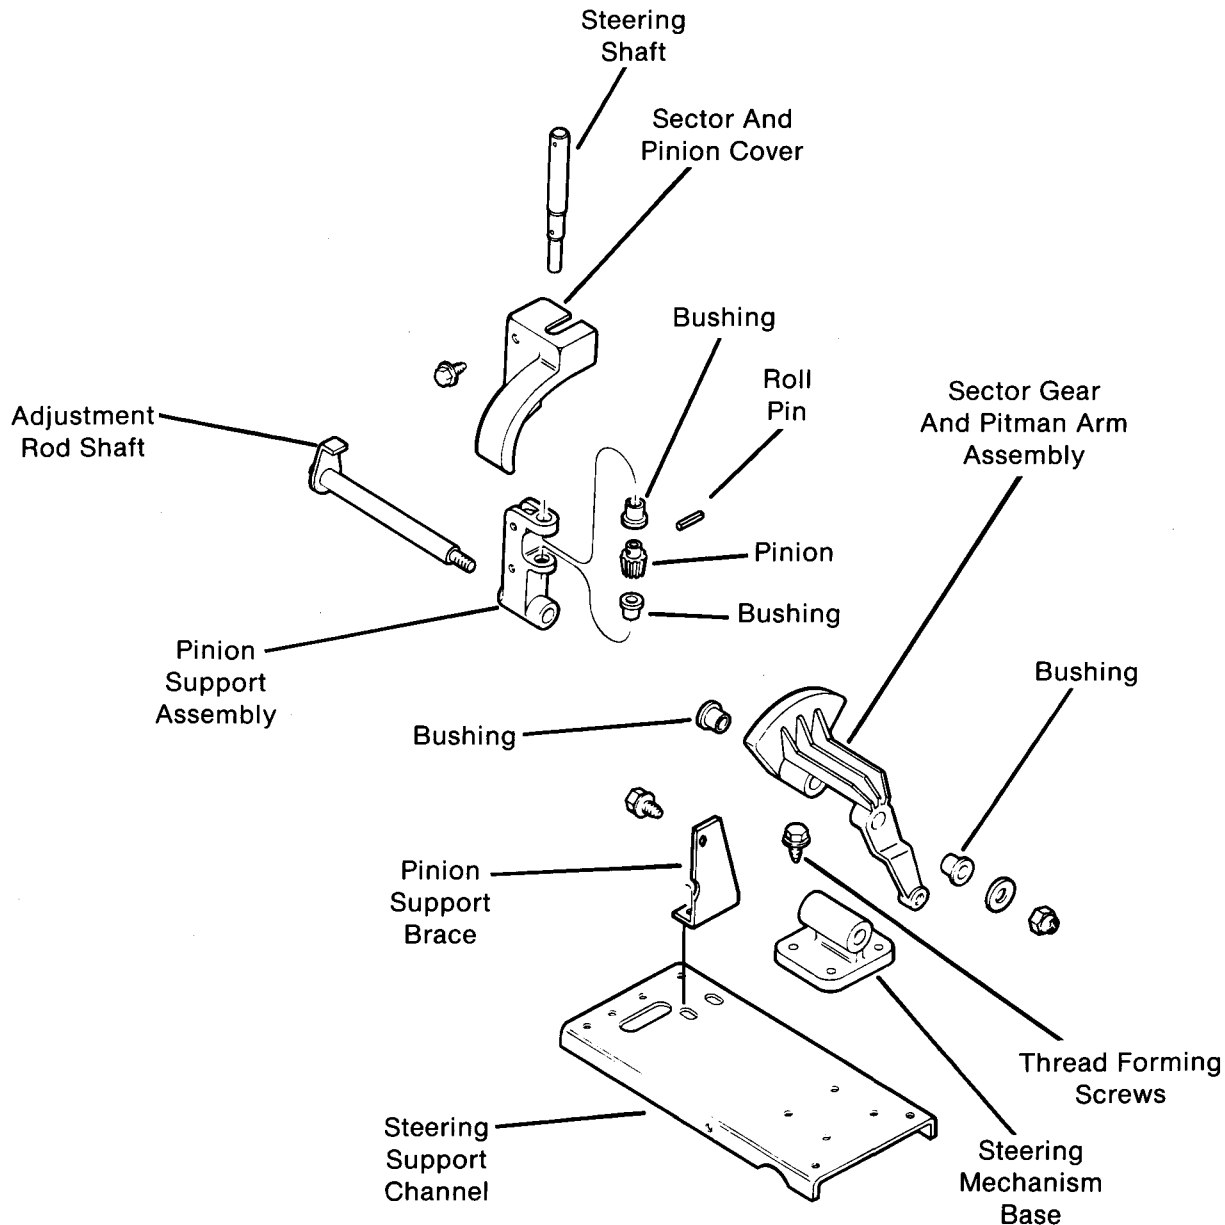

FIG. 31
- J. Remove four thread forming screws holding steering mechanism to steering support channel. (Fig. 31)
- K. Remove one thread forming screw thru pinion support brace (Fig. 31) and lift steering mechanism assembly out of tractor.
- L. Steering mechanism can now be disassembled and serviced as required. Check condition of sector gear and pinion gear teeth. Check condition of bushings in sector gear and pinion support assemblies. (Fig. 31) Replace any worn or damaged parts.